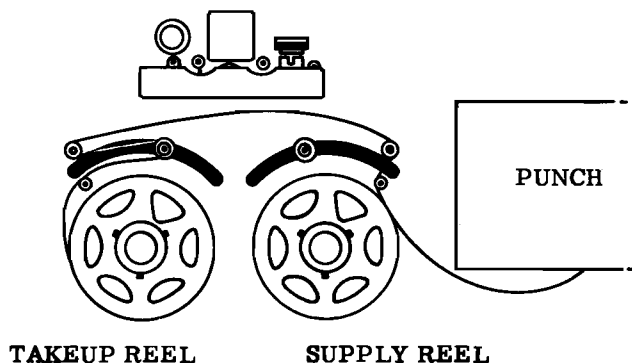

Figure XI-20. Using Spoolers in Punching
A method of threading the tape is illustrated in Figure XI-20. After the tape is wound on the takeup reel, it
3. Thread the tape onto the takeup reel as illustrated in Figure XI-20.